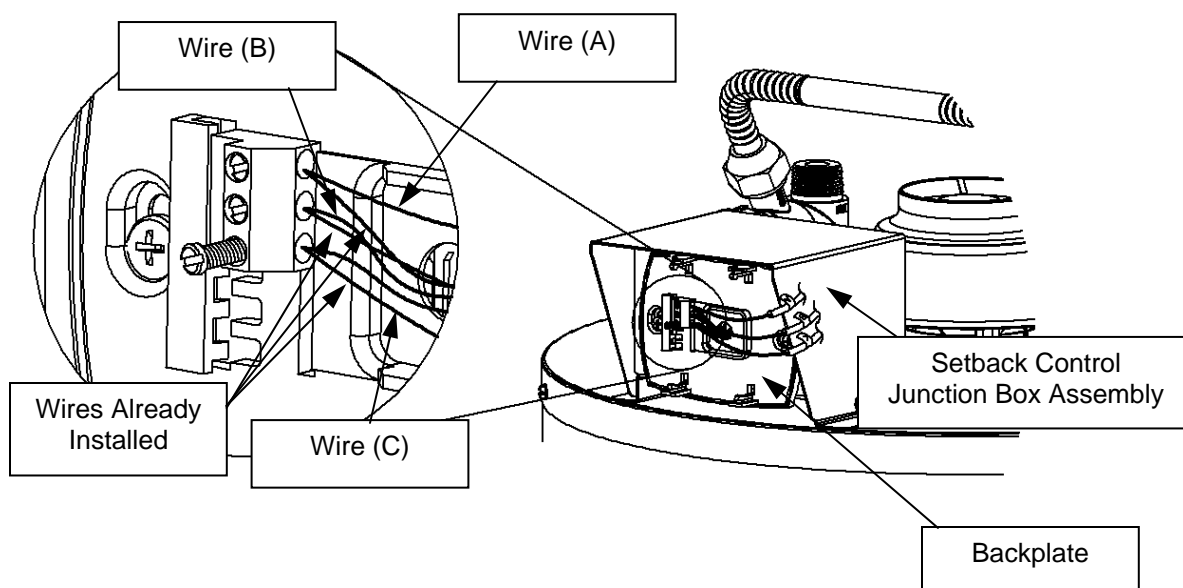

Figure 18
Step 12: Using wire (C), insert one end into the bottom terminal location on the backplate (located on the Setback Control Junction Box Assembly). This is shown in Figure 18. Be sure that the wire already located in this location is not dislodged.